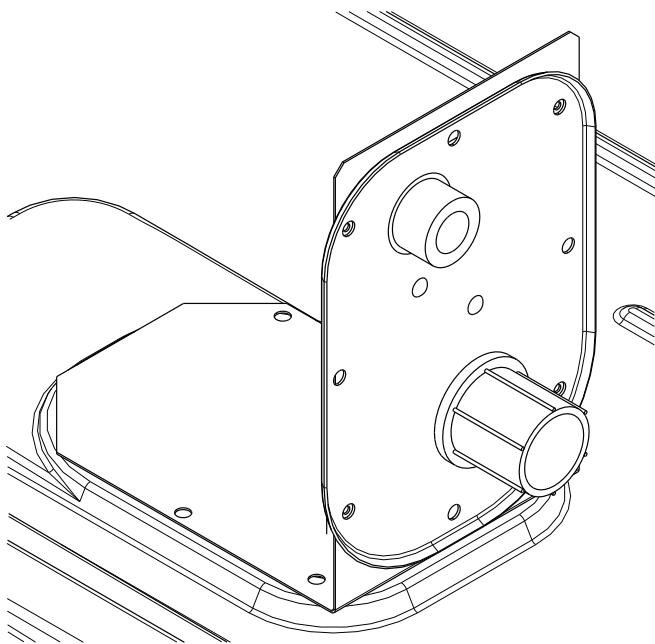

Fig. 32 — Thru-the-Base Fitting Assembly (Shown in Shipping Position)
This service connection kit consists of a 1/2-in. electrical bulkhead connector and a 3/4-in. electrical bulkhead connector, connected to an "L" bracket covering the embossed (raised) section of the unit basepan in the condenser section (see Fig. 32 for shipping position). The 3/4-in. bulkhead connector enables the low-voltage control wires to pass through the basepan. The 1/2-in. bulkhead
3. Place the gasket over the embossed area in the basepan, aligning the holes in the gasket to the holes in the basepan. See Fig. 32.